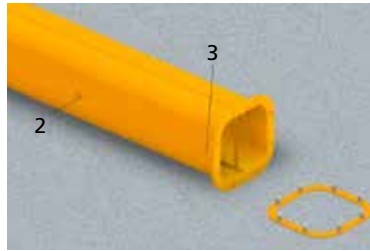

fig.26
- In the case of cable 1 coming from the outside, insert it into the column using the specific grommet 3 located at the base of the column, until reaching hole 2 at the top (fig. 26)
1. Once the counterplate has been fixed, push the power cable 1 into the pillar on the ground and through the hole at the top of the pillar, according to the following layout: if the cable 1 comes from outside, push it into the pillar using a suitable fairlead 3 placed at the bottom of the pillar, until it reaches hole 2 at the top (fig. 26).